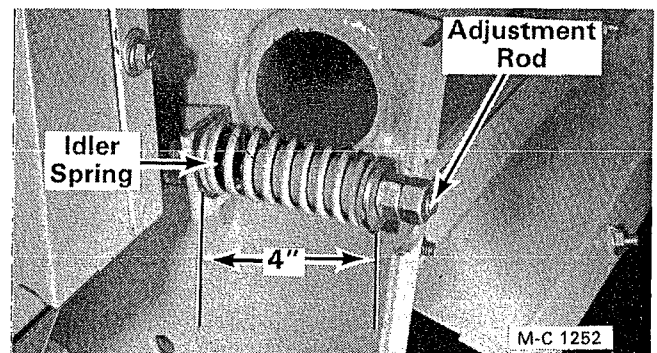

Figure 25 - Idler Adj. Rod - S/N 49650 & Up
1. Measure the compressed length of the idler spring. It should be 4", see Figure 25.
3. Loosen the idler spring adjusting rod and remove the belt, see Figure 25.